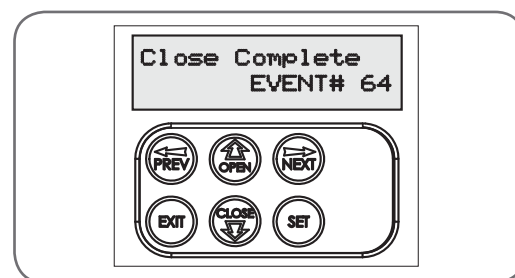

Fig D.5
The opener keeps a record of the last 64 events that have taken place. The events include the type of drive cycles executed, obstruction detection, various faults, power failures etc. When this tool is selected, the screen displays the last event that occurred (**Fig. D.5**). Press NEXT or PREV to view each event. The "EVENT#" field shows the sequence of the events, with (1) being the first and (64) being the last. The example shows that the last event was a close cycle which succeeded in closing the gate. When finished viewing the events, press EXIT.